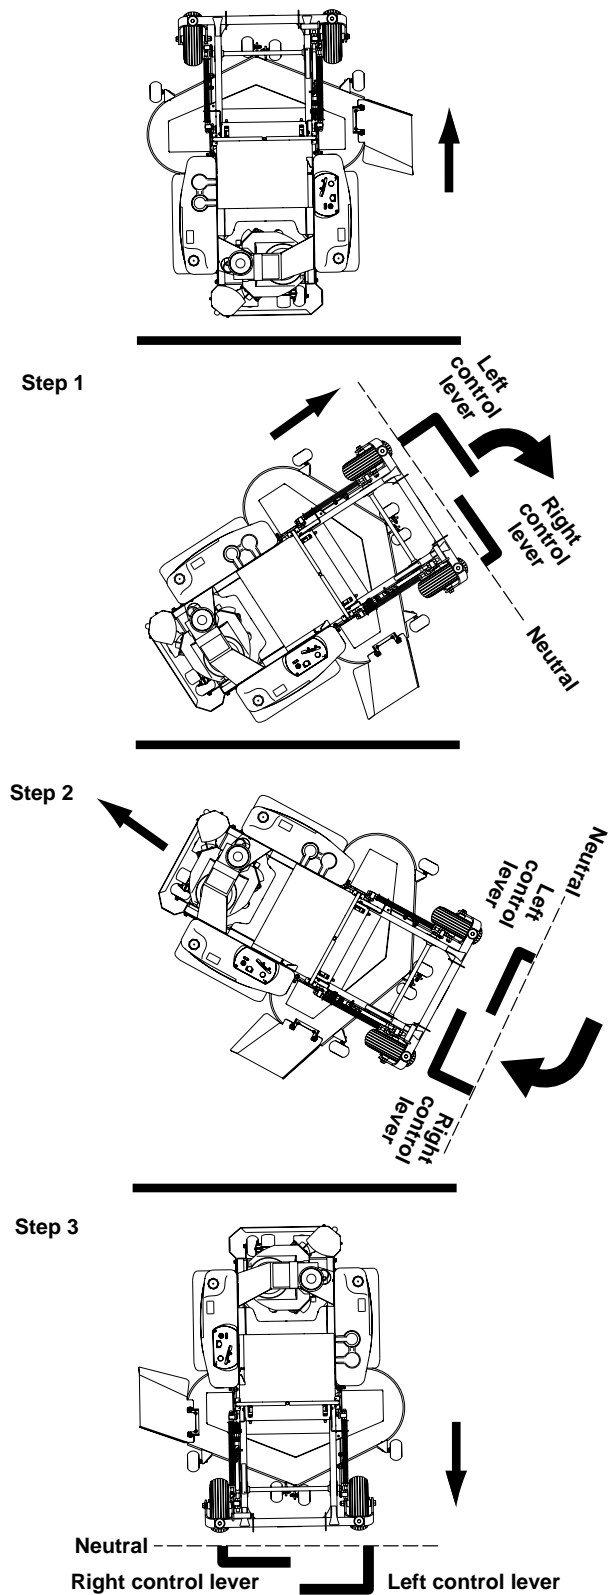

Figure 3-10
**To make a three point turn to the right**, move the left steering control lever farther forward from neutral than the right steering control lever and start the turn. Next, pull back on the steering control levers until they are past neutral and the machine starts to go rearward. Pull right steering control lever farther rearward from neutral than the left steering control lever until the rear of the machine has pivoted around. Then, push the steering control levers forward until they are both past neutral and the machine starts to go forward. Push the left steering control lever farther forward from neutral than the right steering control lever and finish the turn. (Figure 3-10)